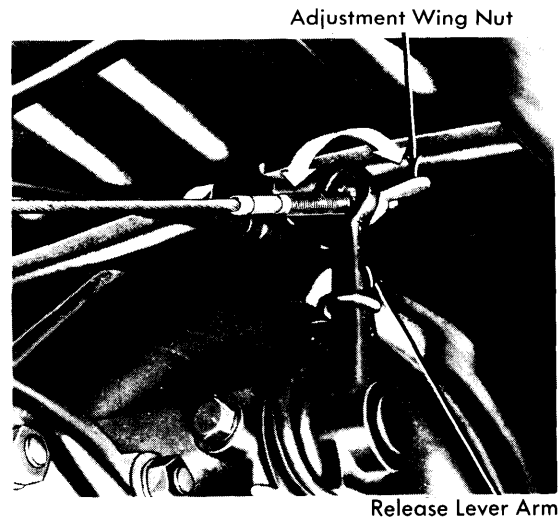

Fig. 3 Clutch Free Play Adjustment Point
2) When free play is correctly adjusted there will be approximately $\frac{3}{32}$ " (Type 2) or $\frac{1}{16}$ " (Type 1) clearance between operating lever and wing nut. See Fig. 3. After adjusting, make sure two lugs of wing nut engage cutouts in lever.